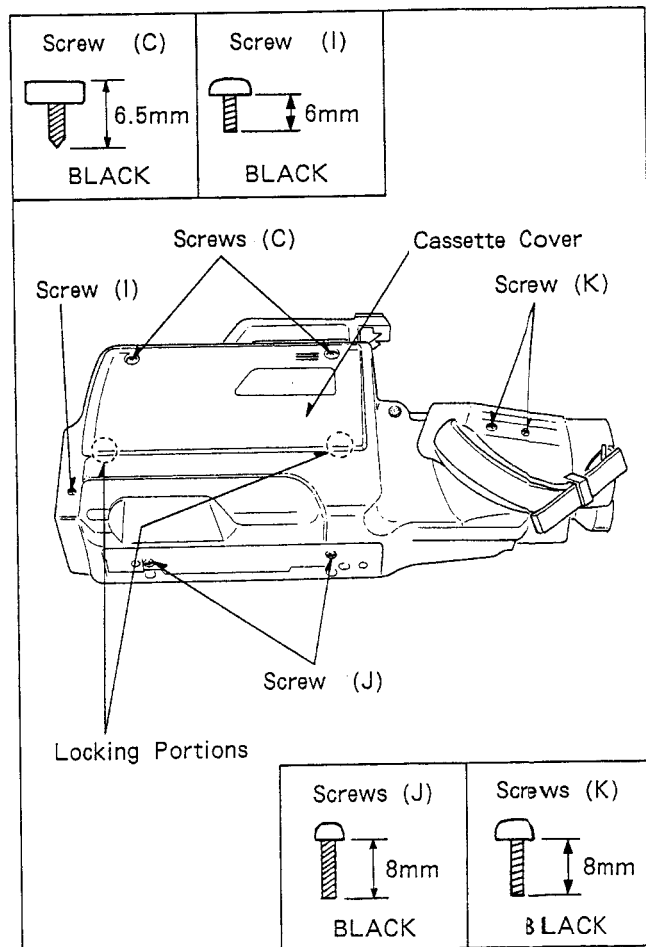

Fig. D4
- (1) Remove Screw (I), 2 Screws (J) and 2 Screws (K) shown in Fig. D4.